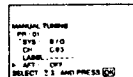

Fig. 14
- 7 Select "OFF" with  $\Delta$  or  $\nabla$  and press OK. (See Fig. 14.)